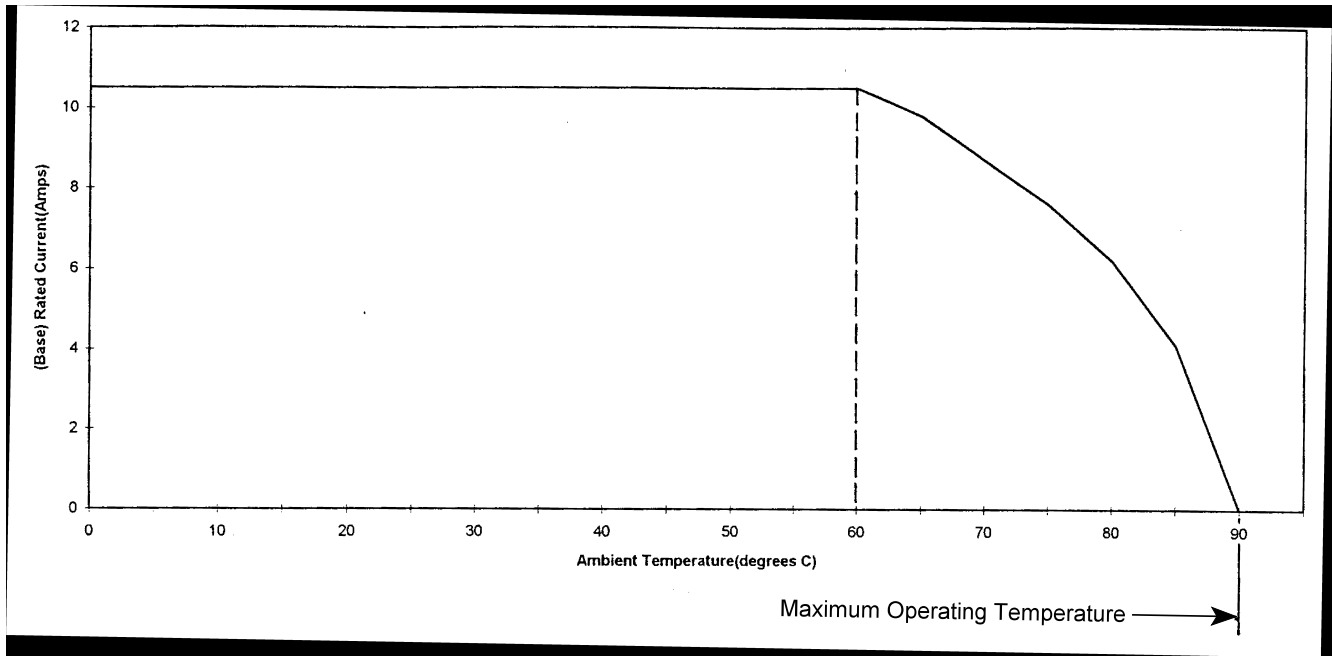

Figure 4C
NOTE To determine acceptable current carrying capacity for percentage connector loading and wire gage indicated, use Multiplication Factor (F) from above chart and multiply it times Base Rated Current for a single circuit at maximum ambient operating temperature as shown in Figure 4C.